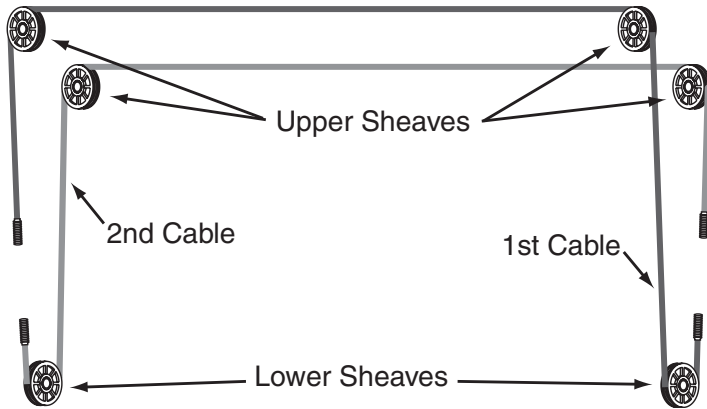
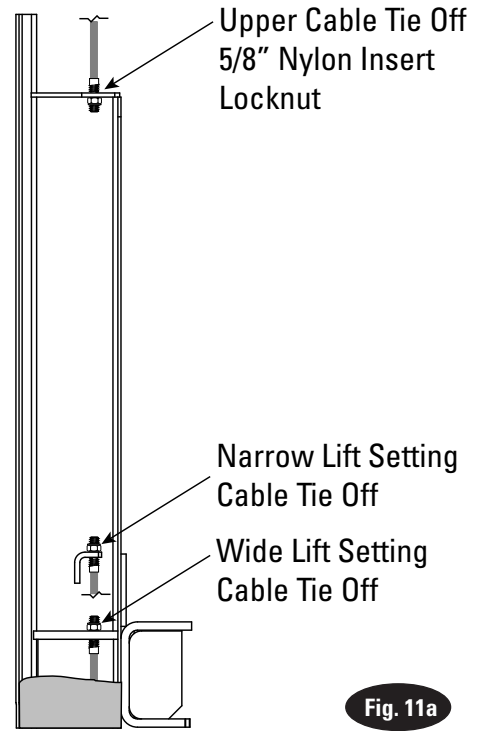

Fig. 11
Fig. 11a
- A) Refer to Fig. 11 for the general cable arrangement. First, run a cable end up through the small hole in the lower tie-off plate, Fig. 11a.
- D) Pull the cable back down, Fig. 11a
- E) Run cable around the lower sheave, then up and around overhead sheave and across and down to the opposite carriage, Fig. 11.